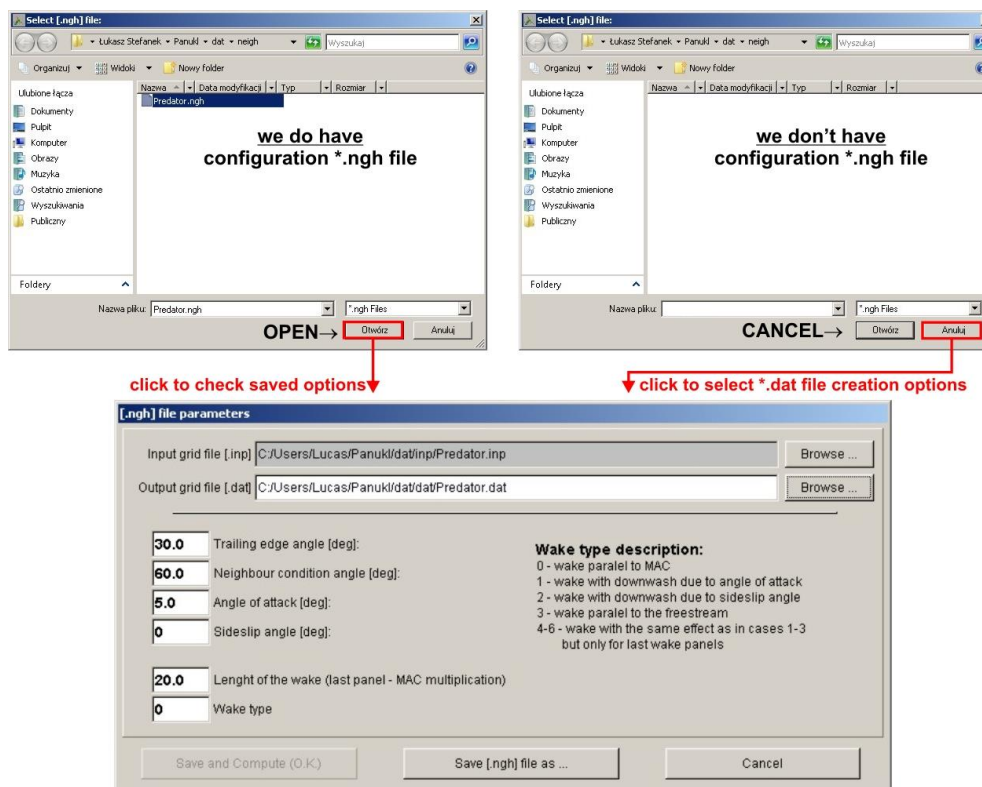

Fig. 36 – Creating \*.dat file (grid with wake)
Create grid file with the neighbours	<p>This command will run Neigh.exe, PANUKL application component. User will be asked to point input grid file (*.inp). Based on input geometry file the output *.dat, grid with wake file will be created, Fig. 36.</p> <p>The *.dat file contains information about grid, wake and numbers of „neighbours” for current grid panels.</p>
**Option No. 1** – we do have saved on disk configuration file \*.ngh, Fig. 36
**Option No. 2** – we do not have saved on disk configuration file \*.ngh, Fig. 36